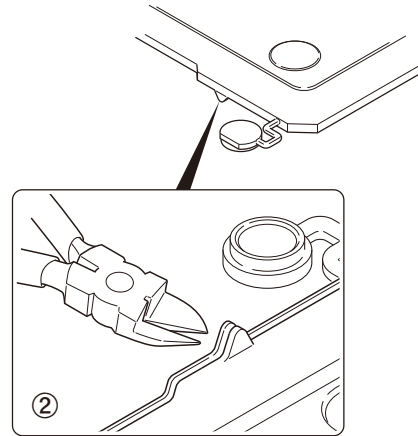

Fig. 6-3
Note: If the GPS receiver is installed, cut the base of the convex tab of the top packing with a pair of diagonal cutters, or similar tool. (Fig. 6-3 ②)